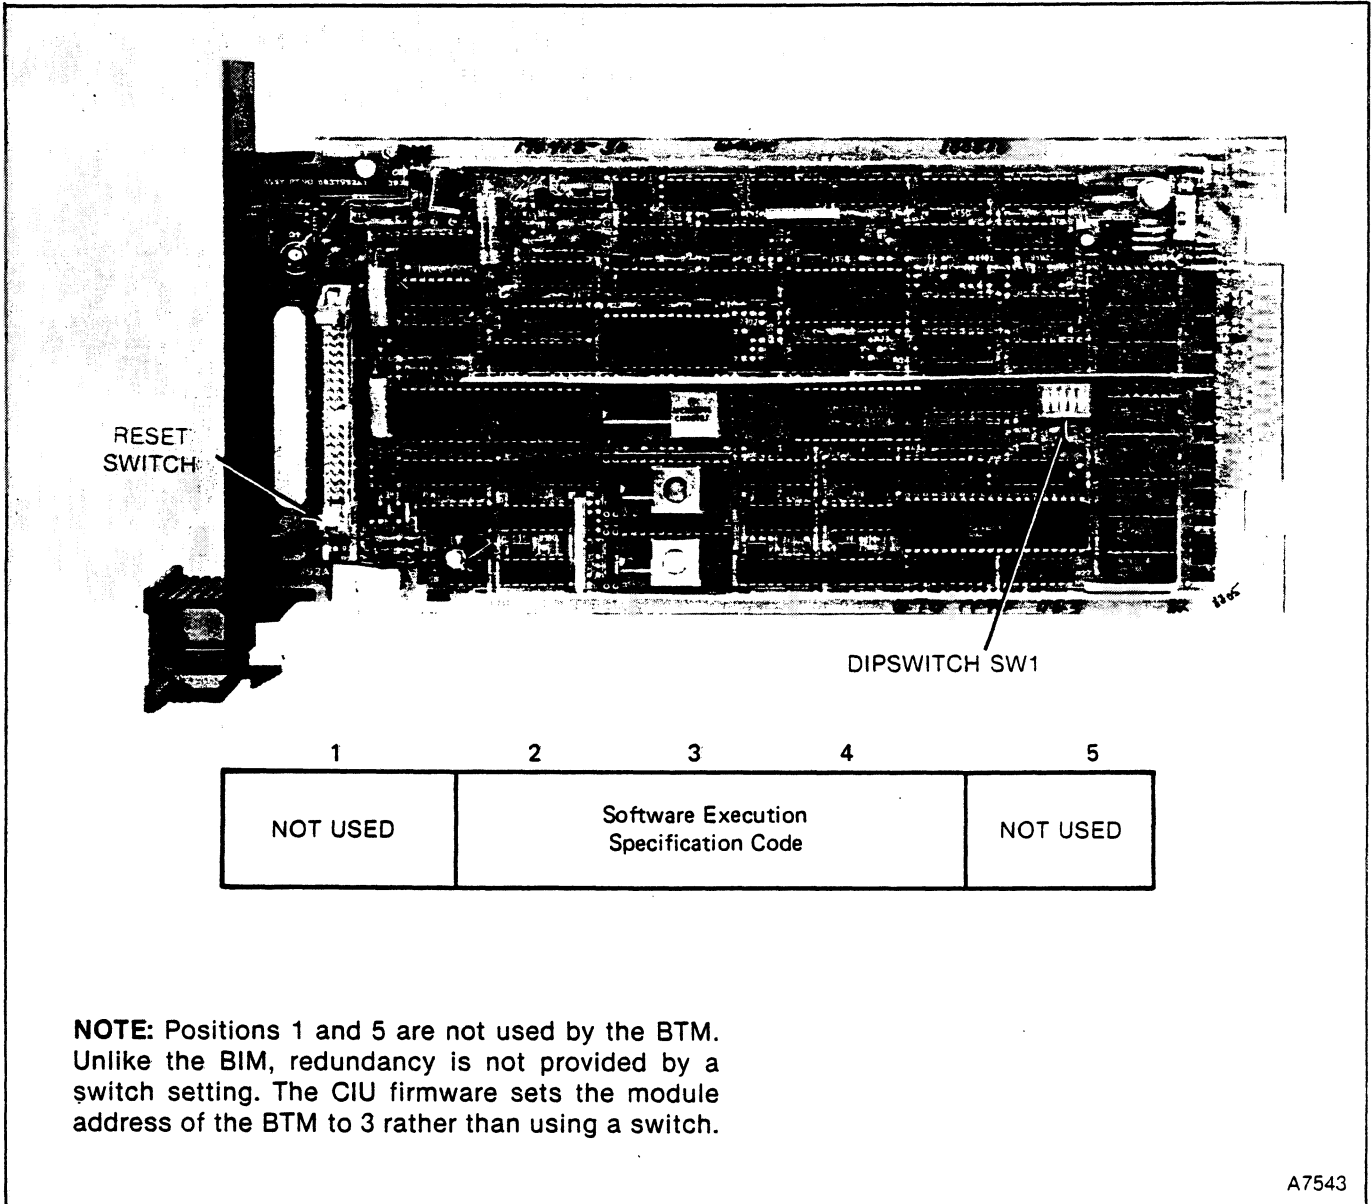

FIGURE 9 — BTM Dipswitch
Use BTM dipswitch SW1 for option settings. Set the five positions described in Figure 9. Pole positions 2,3, and 4 define software execution codes for off-line testing. For normal operation pole positions 2,3, and 4 remain in the closed position (000).